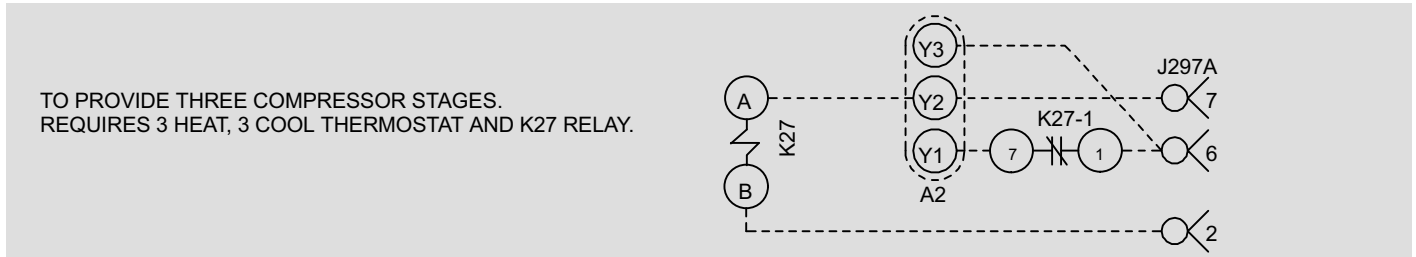

Figure 2. 3-stage cool (ECTO 5.04 opt. 3) wiring
- **Option 3. Three Cooling Stages:** Cooling operation is shown in table 2; this option requires the use of a three-stage cool thermostat and a K27 relay. See wiring pictorial in figure 2 and wiring diagram control C section.